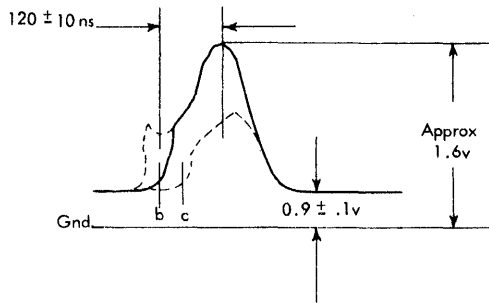

FIGURE 55. MAIN STORAGE STROBE
2. Run the "all ones" test and adjust your scope to the same scale as Figure 55.
5. Realize that if the strobe is set near point b (Figure 55) the tendency is to pick bits and if the strobe is set near point c, the tendency is to drop bits.